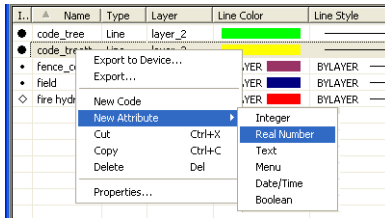

Figure 5-68. Select Attribute to Add
1. Right-click a code to add an attribute to and click **New Attribute** then select the attribute type on the pop-up menu (Figure 5-68).